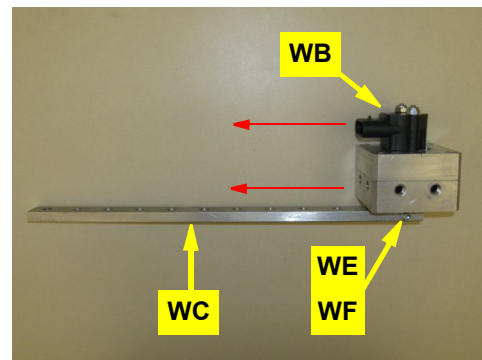

Figure 1c: Attached WAS arm
- Using hardware **WE** (nut) and **WF** (screw), attach the cut WAS arm **WC** to the WAS assembly. Mount the arm in the same direction as the WAS wire connector **WB** (Figure 1c).